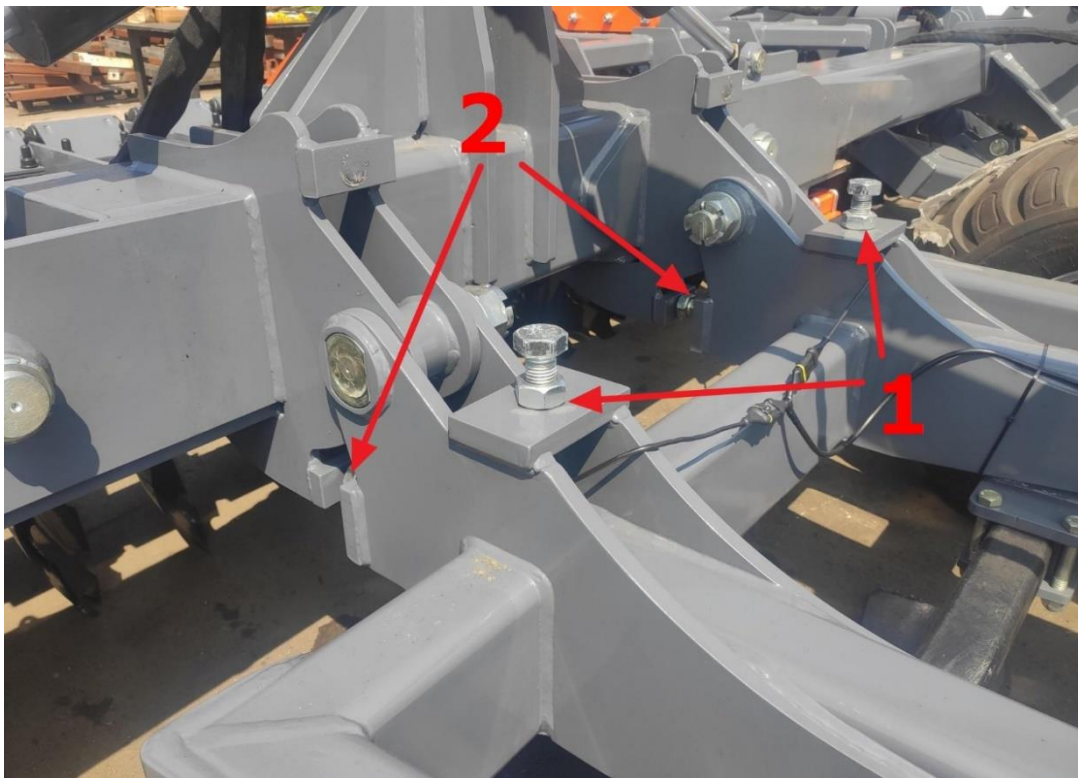

Figure 39 Placement of machine wing adjustment screws in position when: 1-Machine wings are folded, 2- Machine wings are unfolded.
Levelling the machine is also possible thanks to the adjustment screws at the rear of the chassis. The vertical bolts (item 1, fig. 39) adjust the position of the disc harrow when the machine is folded. The horizontal screws (item 2, fig. 39) adjust the level of the disc harrow when the machine is unfolded.
For machines with running gear, the option is available to purchase a valve block with electric control, which allows all hydraulic sections to be connected directly to the control panel with joystick, which allows more convenient control of the machine's hydraulics and relieves the load on the tractor's external hydraulics (one pair of hydraulic lines is connected to the tractor) (fig. 39).